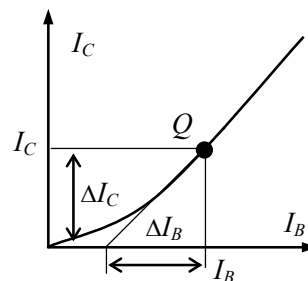

Fig. 1.28
**Transfer characteristic.** Another important feature of the transistor is its *transfer characteristic* that sets the relation of the collector current versus the base current (Fig. 1.28). An *ac current gain*  $\beta_{ac}$  (*ac beta*) may be calculated from this curve in operating point Q as